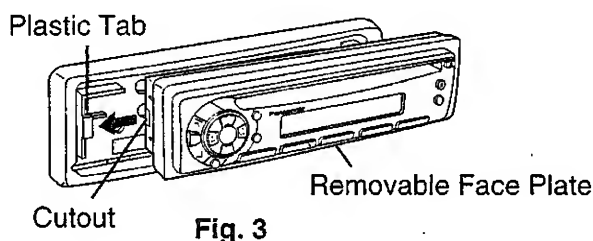

Fig. 3
- ① Slide the left side of the removable face plate in place. (⇒ Fig. 3)